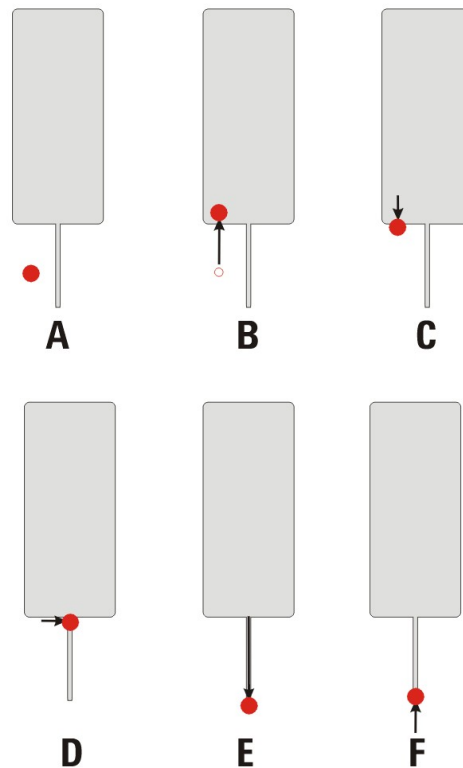

Figure 59 Steps to aligning laser on cantilever beam tip
- 3 Rotate the front-to-back knob clockwise to move the laser spot onto the cantilever chip (Diagram B in Figure 59). When the laser reaches the chip it will be blocked and will no longer be visible on the paper. You should only need to turn the knob a few rotations.
- 4 Rotate the front-to-back knob counterclockwise until the spot just reappears on the paper. The spot is now at the edge of the chip (Diagram C in Figure 59).
- 5 Rotate the left-to-right knob to position the laser on the cantilever (Diagram D in Figure 59). As the laser passes over the cantilever it will disappear and reappear in rapid succession. You should now see the laser spot on the scanner's frosted glass.
- 6 Turn the front-to-back knob counterclockwise to move the spot down the cantilever, toward the tip until the spot on the frosted glass disappears (and the spot reappears on the paper) (Diagram E in Figure 59).
- 7 Turn the front-to-back knob clockwise slightly to position the laser just on the cantilever tip (Diagram F in Figure 59). The spot will reappear on the ground glass.